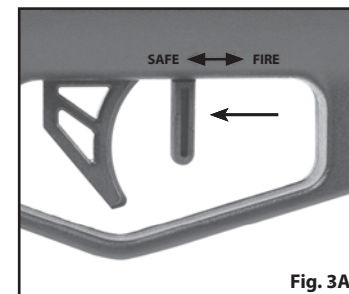

Fig. 3A
2. The safety is in the SAFE position, and the air rifle is "ON SAFE" when the Safety lever is in the rear position "Safe" (near trigger), and it cannot move backward any further. (Fig. 3A).